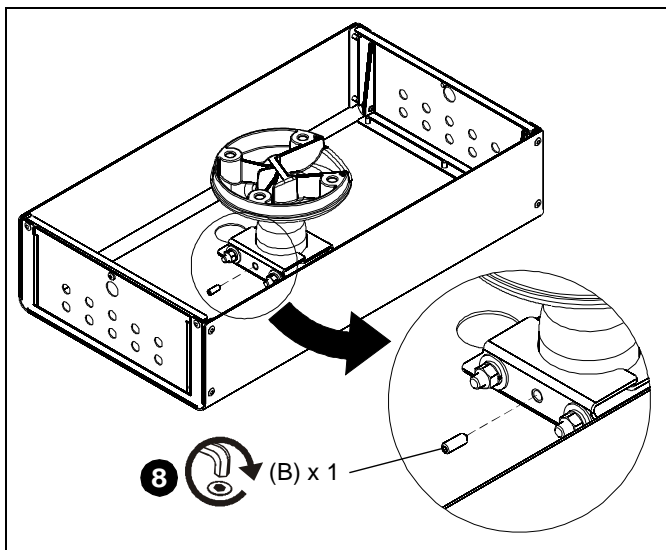

Figure 5
8. Insert one 1/4-20 x 3/4" set screw (B) into CMA480 enclosure clamp, and tighten against extension column. (See Figure 5)